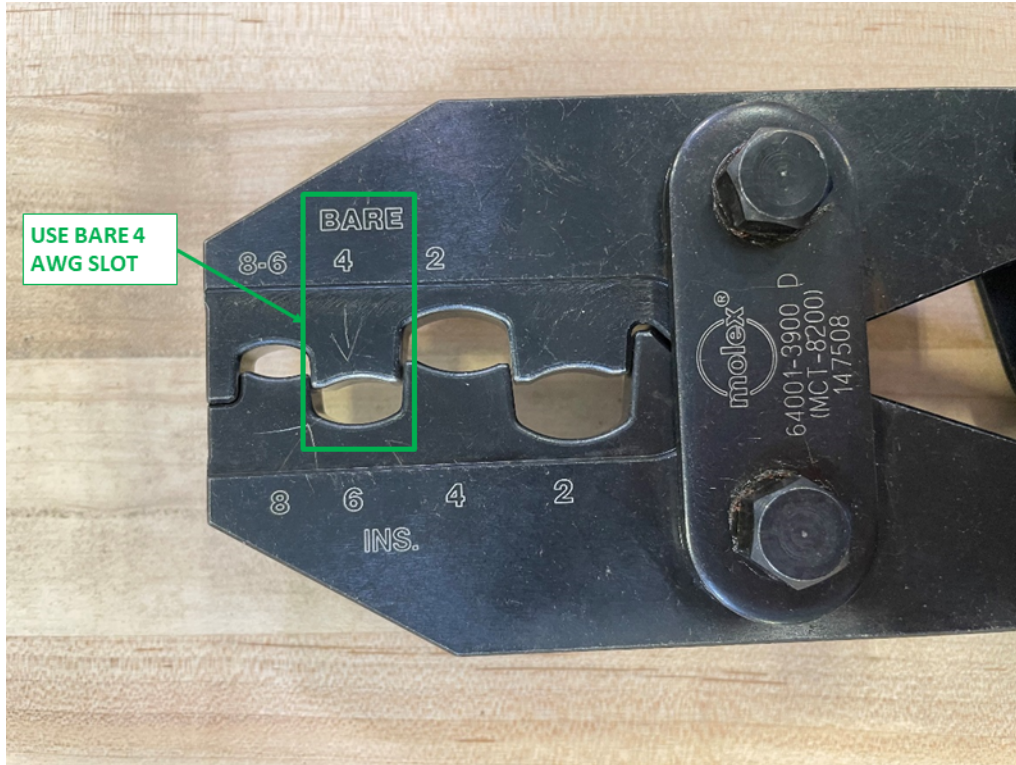

Figure 1 Crimping Tool
- i. Molex crimper 64001-3900 (see Figure 1)